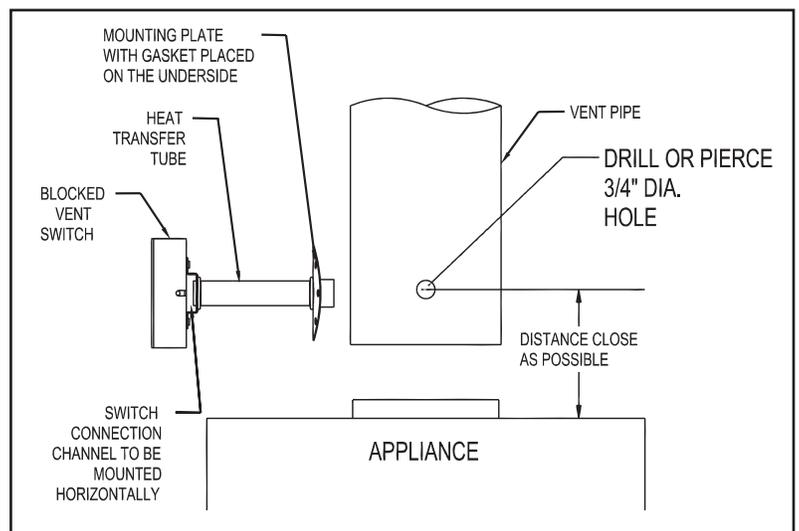

Figure 5
SEE THE APPLIANCE MANUFACTURER'S INSTRUCTIONS FOR THE SPECIFIC LOCATION. IF THE APPLIANCE MANUFACTURER DOES NOT SPECIFY A LOCATION, REFER TO FIGURE 5.
1. Drill or pierce a clean hole (about  $\frac{3}{4}$ " diameter) in the vent pipe near the appliance outlet. (See Figure 5)
4. Secure the assembly to the vent pipe with a minimum of 4 sheet metal screws. The channel must be mounted horizontally, unless specified differently by the appliance manufacturer. (See Figure 5)